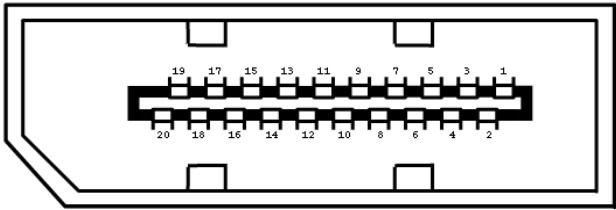

Figure 3-28: DP++ Connector
**CN Location:** See **Figure 3-29** and **Figure 3-28**